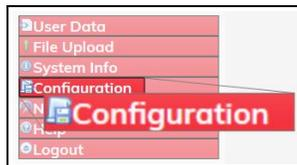

Figure 136: Configuration link
4. On the **Menu** list, click the **Configuration** link. Figure 136